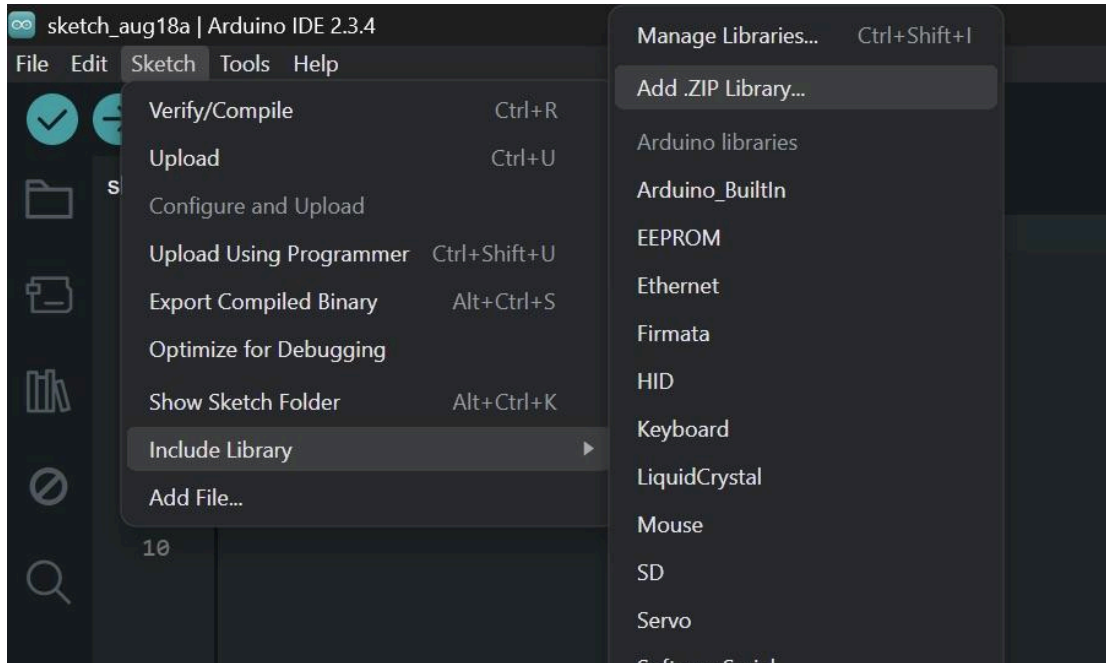

Figure 9: Click Path for Adding .ZIP Library in Arduino
4. Download the LiquidCrystal\\_I2C zip folder (**Do not extract the file**). Click **Sketch, Include Library**, and **Add .ZIP Library** (Figure 9). Select the LiquidCrystal\_I2C .ZIP file and accept.